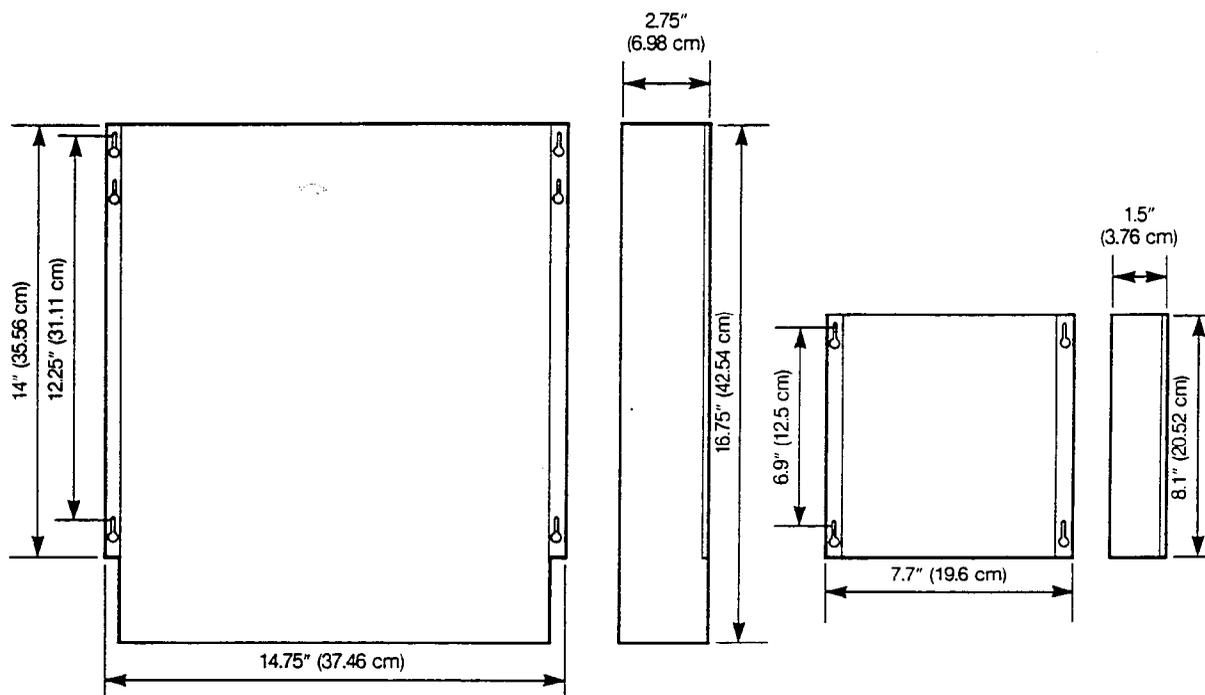

Figure 3-1 Mounting the Options Interface Hardware Unit
- Step 4. Position the Options Interface Hardware Unit connection plate over the screw hole in the bottom right-hand flange of the KSU (refer to Figure 3-1). Then, replace the screw you removed in Step 3.